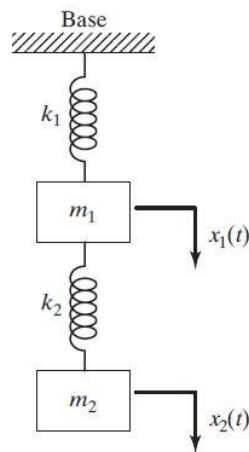

FIGURE 5.24
- 5.5 Find the natural frequencies of the system shown in Fig. 5.24, with $m_1 = m$, $m_2 = 2m$, $k_1 = k$, and $k_2 = 2k$. Determine the response of the system when $k = 1000$ N/m, $m = 20$ kg, and the initial values of the displacements of the masses m_1 and m_2 are 1 and -1 , respectively.
- 5.14** Find the natural frequencies and mode shapes of the system shown in Fig. 5.24 for $m_1 = m_2 = m$ and $k_1 = k_2 = k$.
- 5.17** Find the natural frequencies and mode shapes of the system shown in Fig. 5.24 for $m_1 = m_2 = 1 \text{ kg}$, $k_1 = 2000 \text{ N/m}$, and $k_2 = 6000 \text{ N/m}$.